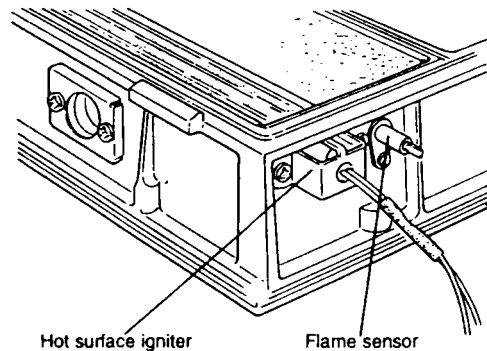
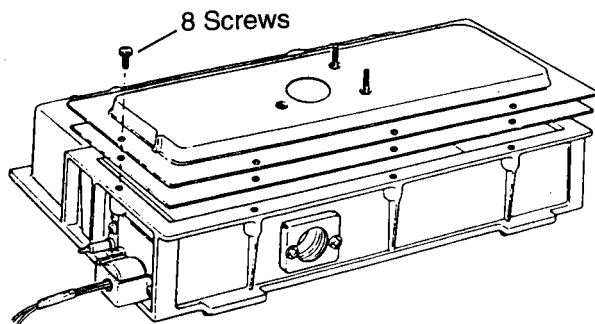

Fig. 18
Fig. 19
- b) The igniter assembly is retained by two M5 pozi drive screws. Remove screws and carefully remove old igniter, if the igniter has become damaged, invert the combustion chamber and shake gently to allow damaged segments to be removed from the chamber. See Fig. 18.
- b) Remove screw retaining sensor and withdraw from the combustion chamber. See Fig. 18.
- b) Remove hot surface igniter, flame sensor. Fig. 18 and burner Fig. 19.
- b) Remove 8 M5 screws retaining burner to the combustion chamber. Fig. 19.